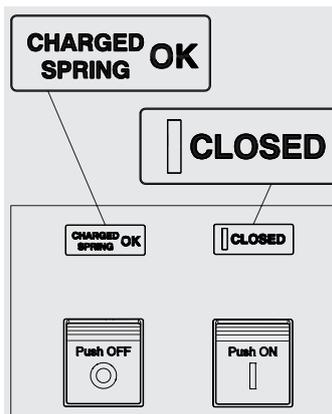

Figure 48
4. Circuit-breaker closed with springs charged (see Figure 48). This state occurs when after closing (see step 4 - Figure 48) the springs are recharged manually or automatically by the gearmotor (if provided).